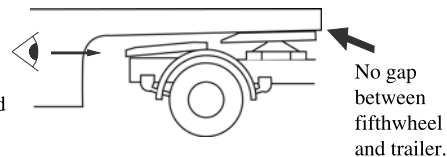

Figure 7- Visually inspect kingpin is locked
2. Visually check that the lockbar is fully across and that the kingpin is locked inside the mechanism (See Figure 7).